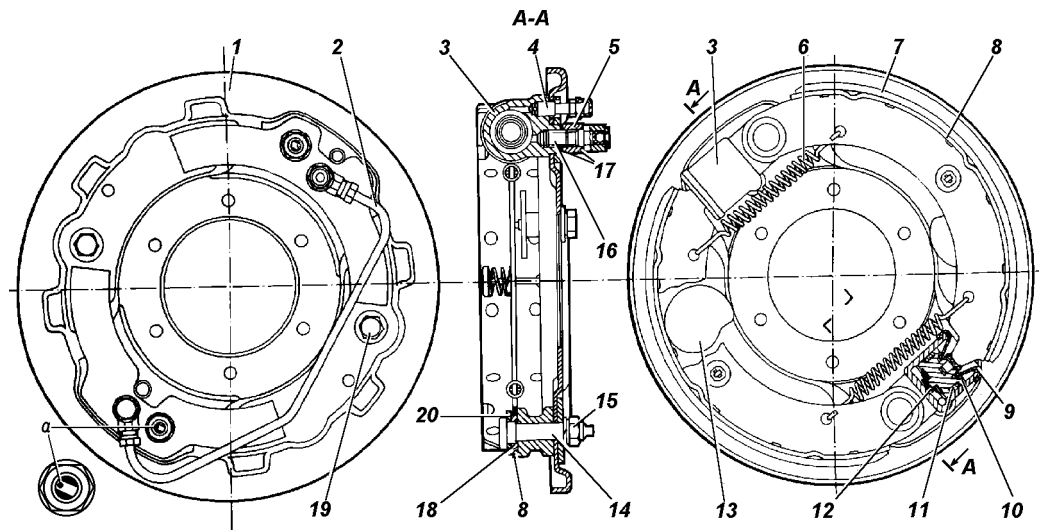
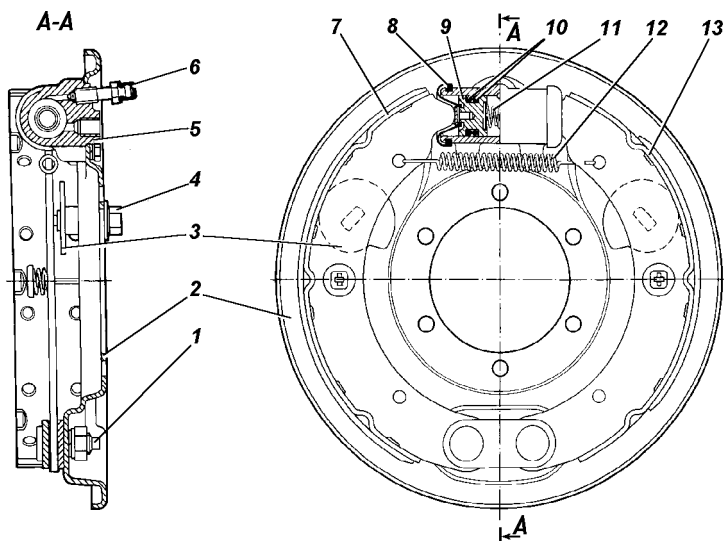

Fig. 61. Front wheel brake:
Fig. 62. Rear wheel brake:
3. Rotate the wheel and gradually turn the adjusting eccentric 19 (Fig. 61) or 4 (Fig. 62) until the wheel is braked.